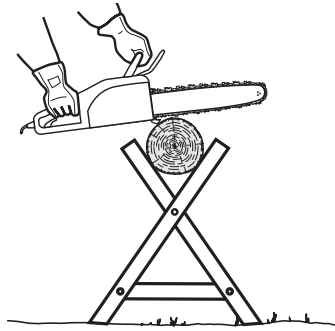

Fig. 36
- Support small logs on a sawing stand or another log while bucking (Fig. 36).